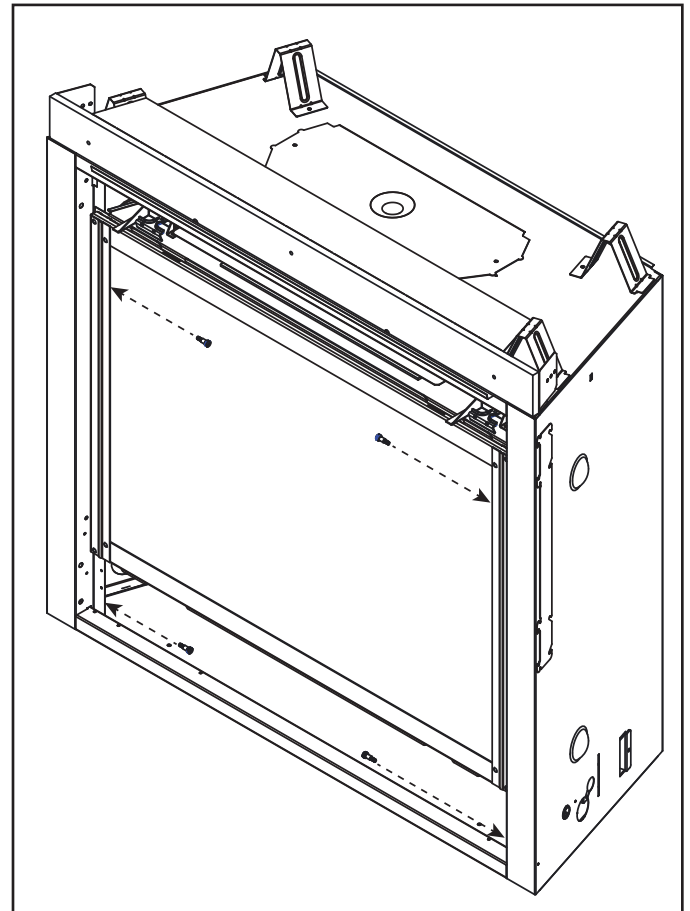

Figure 1. Shoulder Bolt Locations
2. Install the black shoulder bolts into the threaded inserts located in the fireplace surround. See Figure 1. Install four shoulder bolts on FS-3, FS-5, FS-7, FS-7BV and FS-9 appliances. Install two shoulder bolts on FS-7-BK-AU front only. Do not install lower shoulder bolts for this front. The FS-7-BK-AU front uses separate magnet brackets on the bottom that are included with the appliance.